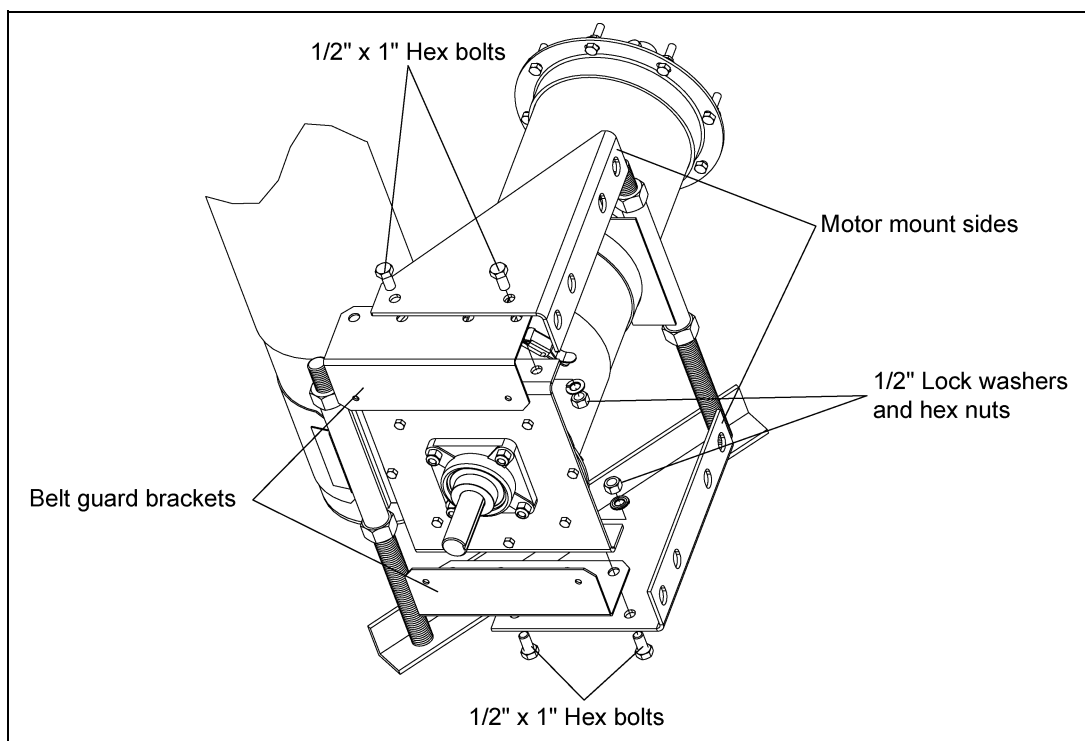

Figure 4B
6. Unbolt the four (4) 1/2" x 1" hex bolts, lock washers and hex nuts and remove the existing belt guard brackets and motor mount sides. (See Figure 4B.)